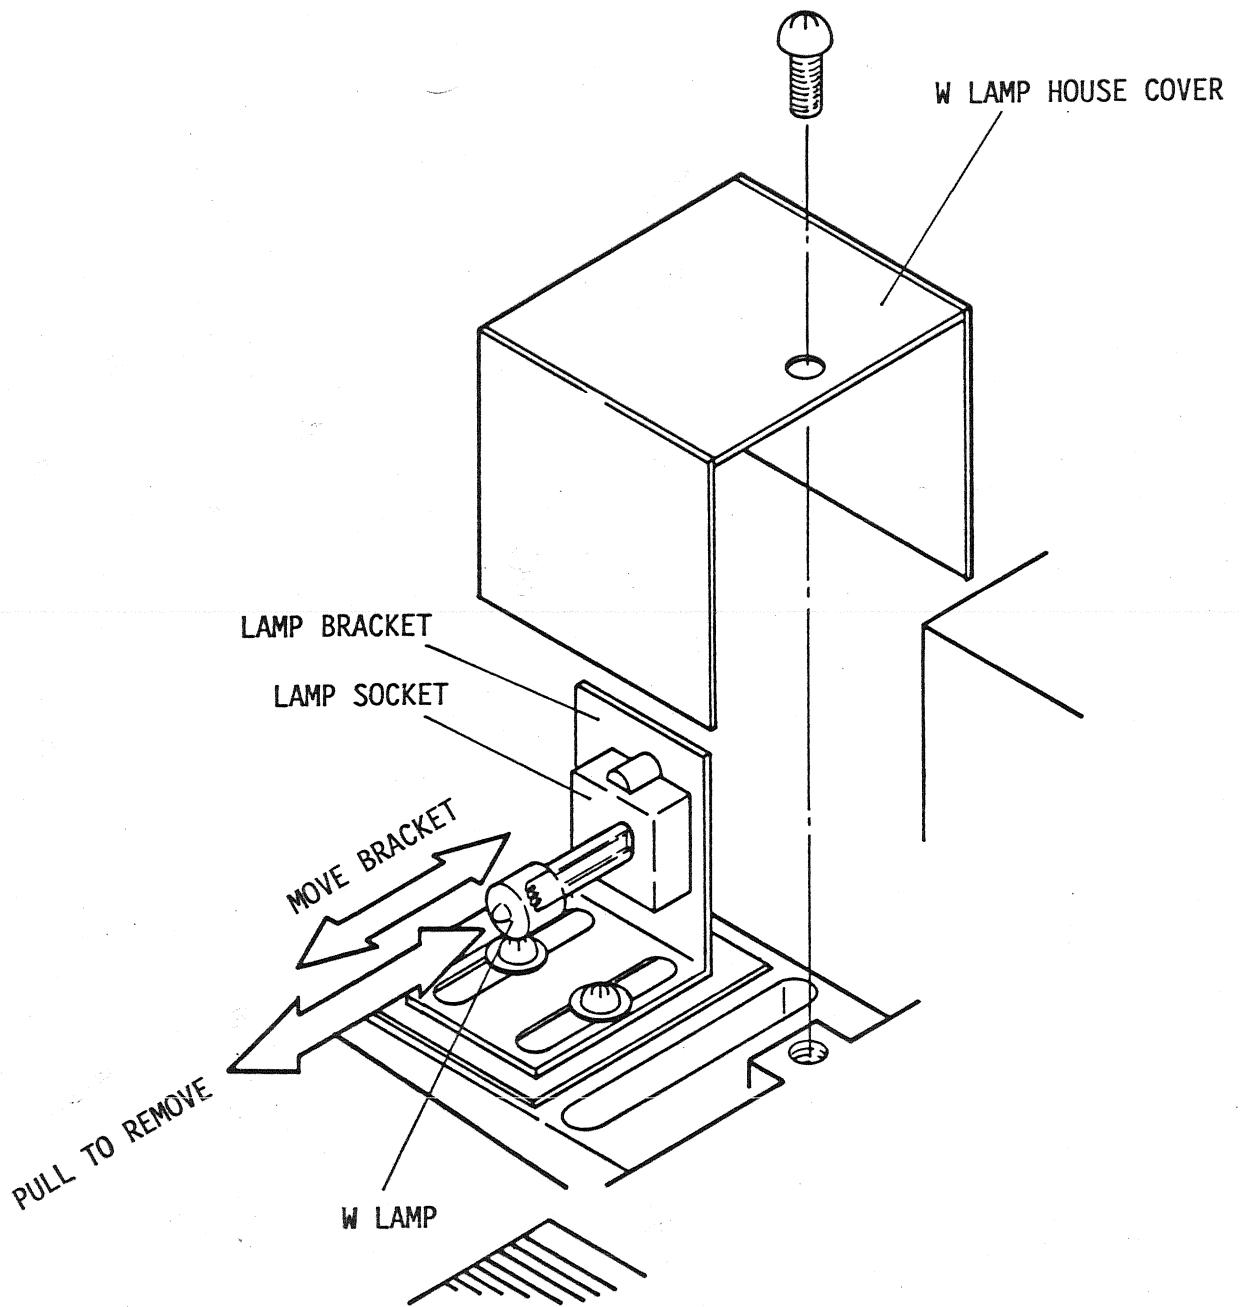

Fig. 10-5 Partially Exploded View of W Lamp House Assembly
- 6) Remove the W lamp house cover, referring to Fig. 10-5.
- 3) Plug the lamp into the lamp socket firmly by holding it with a gloved hand, referring to Fig. 10-5.